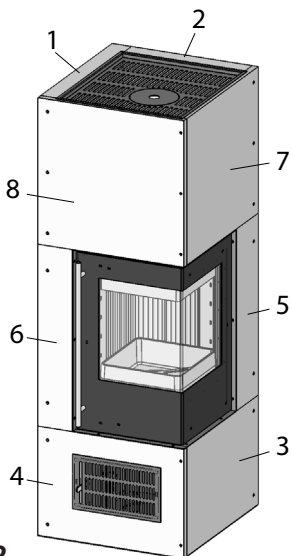

Fig.2
You only need to drill additional countersunk holes into the 25mm thick cladding panels so as to accommodate the diameter of the corresponding screw heads. To ensure that you drill these countersunk holes at the right position into the corresponding panels, the cladding panels (3-8 from Fig.1 / Fig.2) are shown below in their installation position including the dimensioned countersunk holes (grey dots) for door stop left and door stop right. When marking the countersunk holes, pay attention to the position of the pre-drilled holes (X).
Notice: The description below sets out the installation sequence for the Aracar stove with door stop left (see Fig.1). The installation sequence is mirrored for the door stop on the right (see Fig.2).